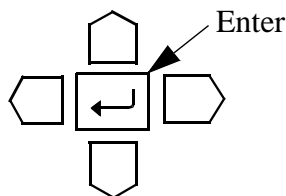

Figure 29 The Enter key on the teach pendant.
5. After selecting **Open...**, press **Enter** (see Figure 29). This means that the “Open...” command will be carried out. However, as it has three dots “...” after it, the command will not be performed directly since more information is required. You must now, in this case, choose the particular program you wish to open.